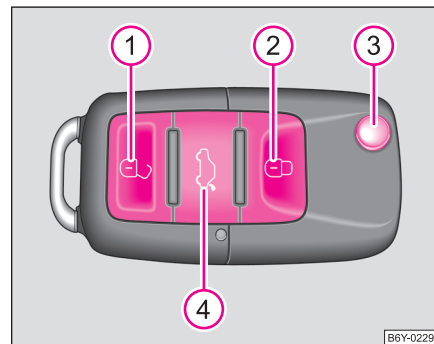

Fig. 27 Radio-operated key
- Press button **4** for about 1 second ⇒ fig. 27.